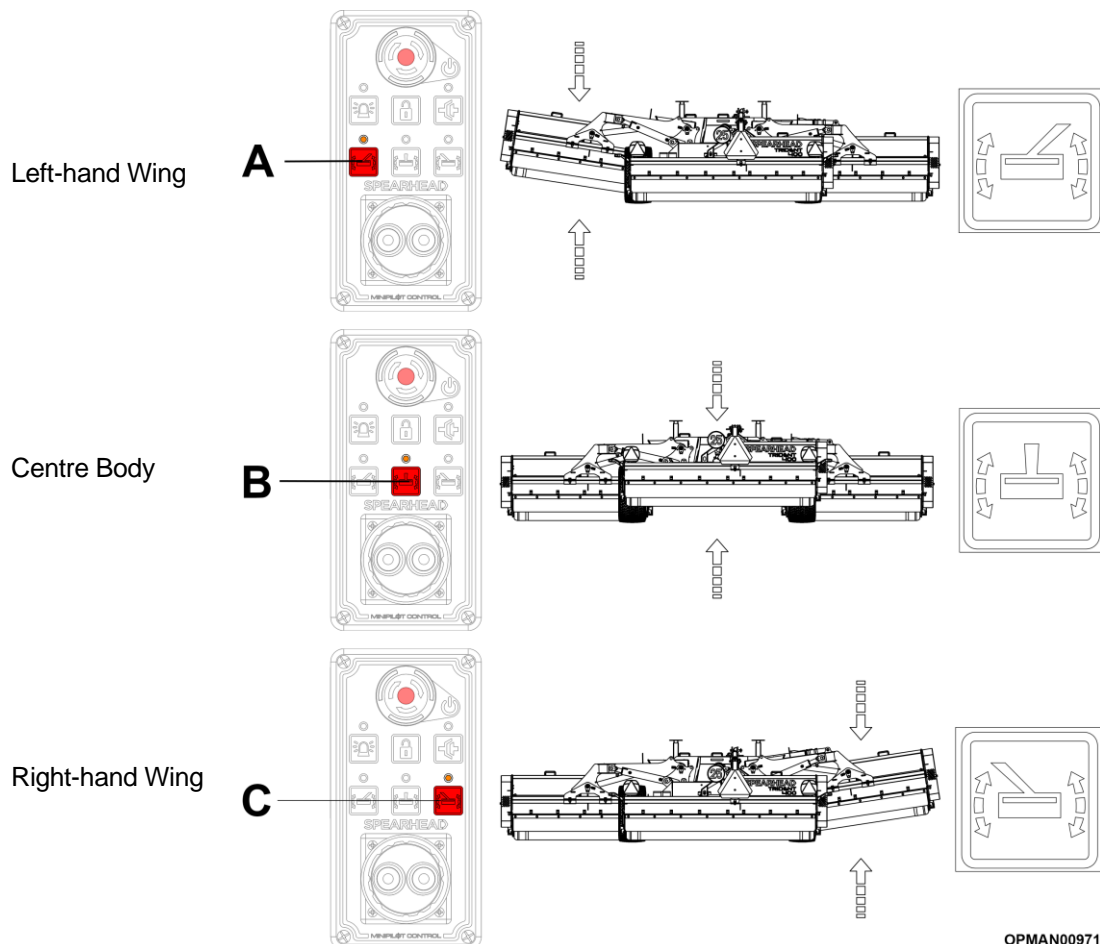

Figure 4.58
On Proline machines fitted with Spearhead's Minipilot control system, with the system already switched on and working, with reference to Figure 4.58 press the left-hand body float button (A), centre body float button (B) and right-hand body float button (C) found on the control box to allow each of the respective hydraulic rams to float in order for the machine bodies to rise and fall with ground contours automatically. Indication of the particular hydraulic ram being in float will be shown by an illuminated orange light above each respective buttons on the control box. To stop the float feature; simply press the float button again on the control box which will cause the illuminated orange light to then go out and the float feature to disengage.